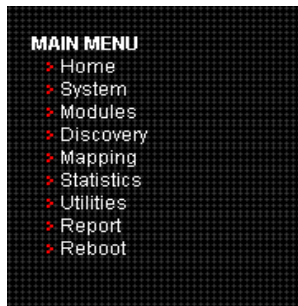

Figure 4-4: Main Menu option bar
- The Main Menu option bar is located at the left-side of the home page. Use this option bar to access the configuration menus. Figure 4-4 is an example of this portion of the home page screen.